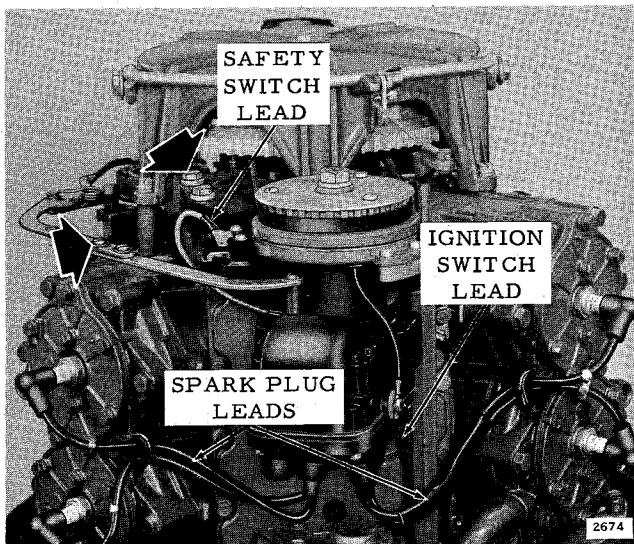

Figure 4-4. Magneto Leads and Attaching Screws
- a. Disconnect safety switch lead and ground (ignition key) switch lead. See Figure 4-4.
- c. Remove two linkage screws. See Figure 4-4.
- d. Remove the three bracket mounting screws and slide magneto bracket forward to release belt tension. Lift belt off pulley. Magneto and bracket assembly may now be removed from power head. See Figure 4-4.